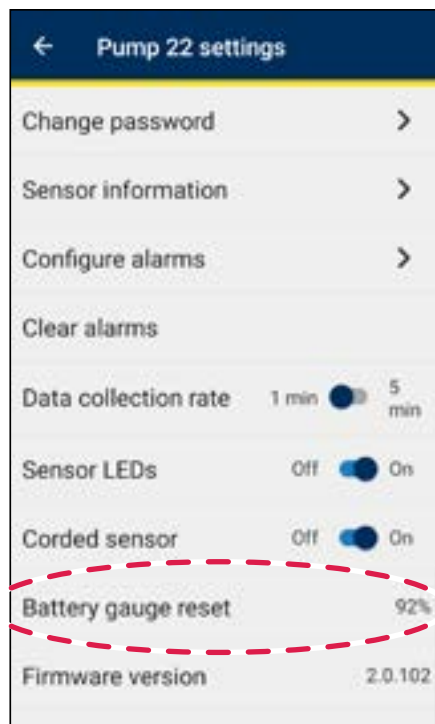

Figure 48
3. Select Battery gauge reset (see figure 48).